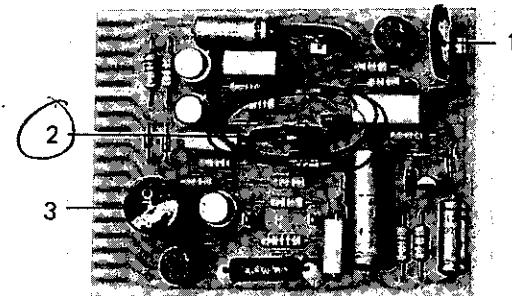

Fig. 4 Thyristor driver
2. Thyristor drive printed circuit (see Fig. 4)
##### 4.1. Adjusting the cathode heating current (see Fig. 4., thyristor driver)
The cathode heating current is adjusted with the potentiometer R 12 (Fig. 4, item 2), the high voltage being switched off. With the cathode heating current units EHS 110 and EHS 110 U, it will be approx. 25 A, with the EHS 111 it will be approx. 18 A.
With the high voltage on the EHV 110 A (6 kV) switched on, the cathode heating current is adjusted with the potentiometer R 7 (Fig. 4, item 1) so that with an emission current of 700 mA or more there will be less than 60 A.
**Adjusting:** Switch-on the high voltage and turn on the emission current slowly with the "EMISSION CONTROL" potentiometer (because the cathode heating current rises quickly). Then, adjust the cathode heating current to 65 A with the potentiometer R 7 (Fig. 4, item 1).